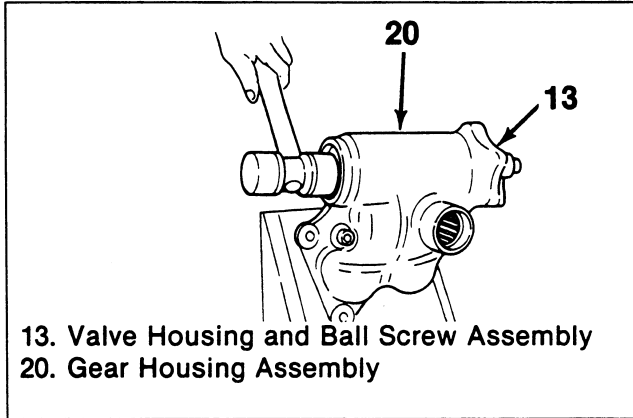

Figure 9. Ball Nut and Screw Removal
- Always keep the valve housing and ball screw assembly (13) in a horizontal position and avoid holding it vertically, or ball nut will slide out (figure 9).
- Remove this assembly from the housing by tapping on the end of the ball screw assembly with a plastic hammer (figure 9).